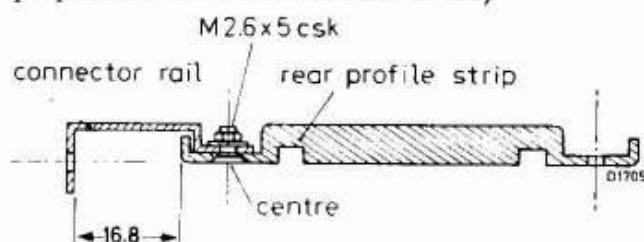

Fig. 1
1. Attach a connector rail to each rear strip by means of an M2.6  $\times$  5mm counter-sunk screw, washer and nut, through the centre hole (see fig. 1).